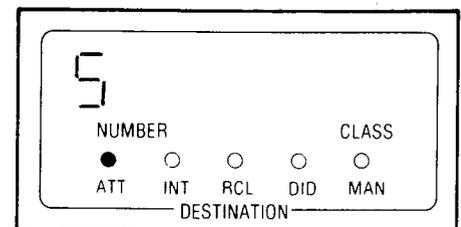

Fig. 304-1
- DESTINATION display shows digit "n" (in Fig. 304-1 "n" is "5")